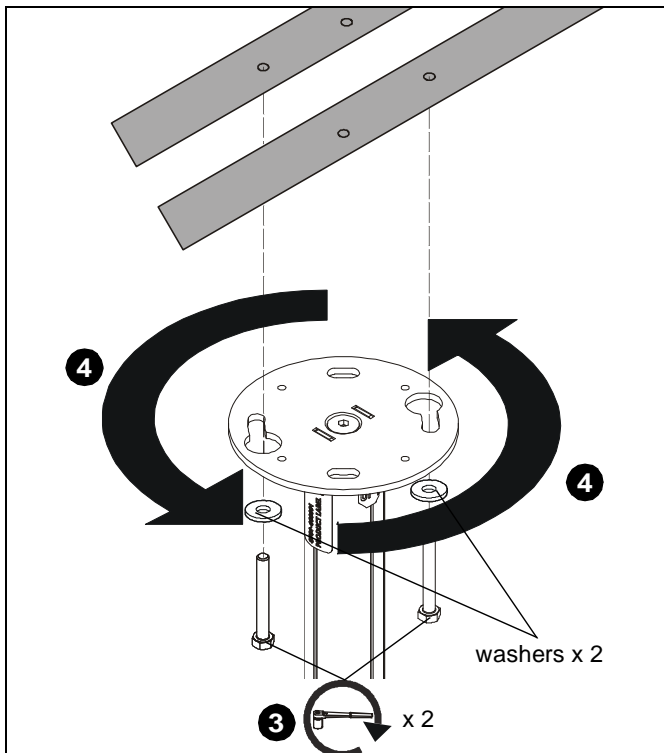

Figure 5
- Loosely install two 5/16" x 2-3/4" (minimum) lag screws (not included) through two 5/16" washers (not included) into opposite corners of holes drilled in wood stud cross bracing. (See Figure 5)
- Place ceiling plate up to ceiling and turn until lag screws hold plate up in position. (See Figure 5)